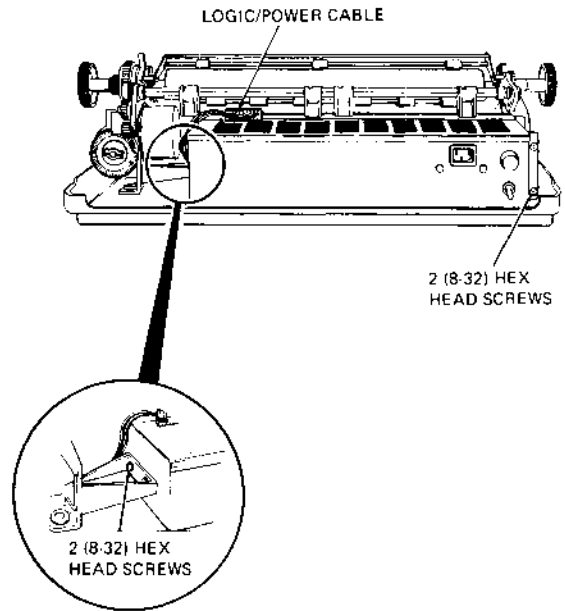

Figure 7-8 Power Supply Removal
3. Loosen the two 8-32 hex-head screws that secure the power supply to the left side as viewed from the rear of the terminal (Figure 7-8).
4. Remove the two 8-32 hex-head screws that secure the power supply to the right side as viewed from the rear (Figure 7-8).